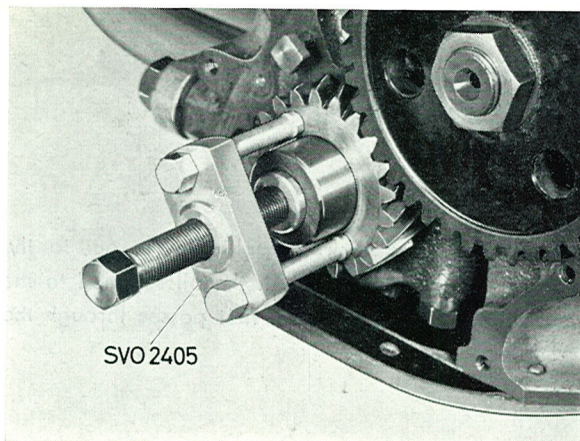
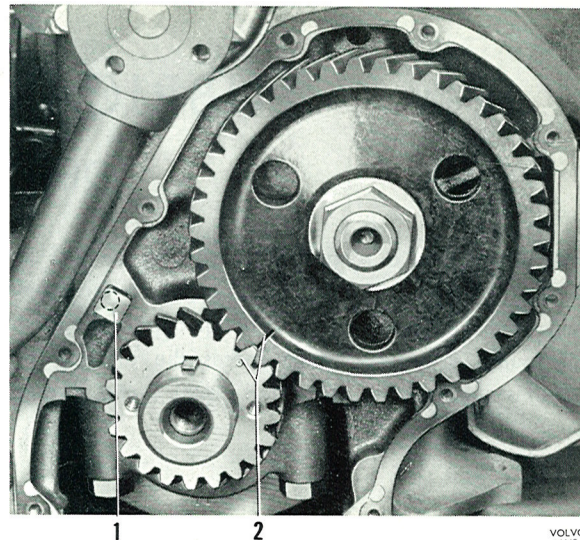
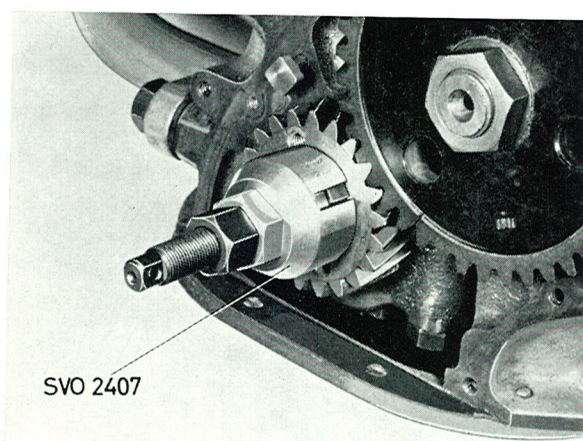

Fig. 2-46. Removing the crankshaft gear
Fig. 2-49. Marking on timing gears
Fig. 2-47. Fitting the crankshaft gear
5. Pull off the crankshaft gear by using puller SVO 2405, Fig. 2-46. Screw out the oil nozzle, blow it clean and then refit it as shown in Fig. 2-49. The gears are lubricated by oil fed through this nozzle.
6. Fit the crankshaft gear by using tool SVO 2407 and the camshaft gear by using SVO 2408, see Figs. 2-47 and 2-48. Fit the hub on the crankshaft. Do not push the camshaft backwards so that the seal washer on the rear end loosens. Check that the gears have the correct position relative to each other, as shown in Fig. 2-49.
Check to make sure that the gears are correctly located in relation to one another, see Fig. 2-49. Tool SVO 2407 has a socket intended for turning the crankshaft.